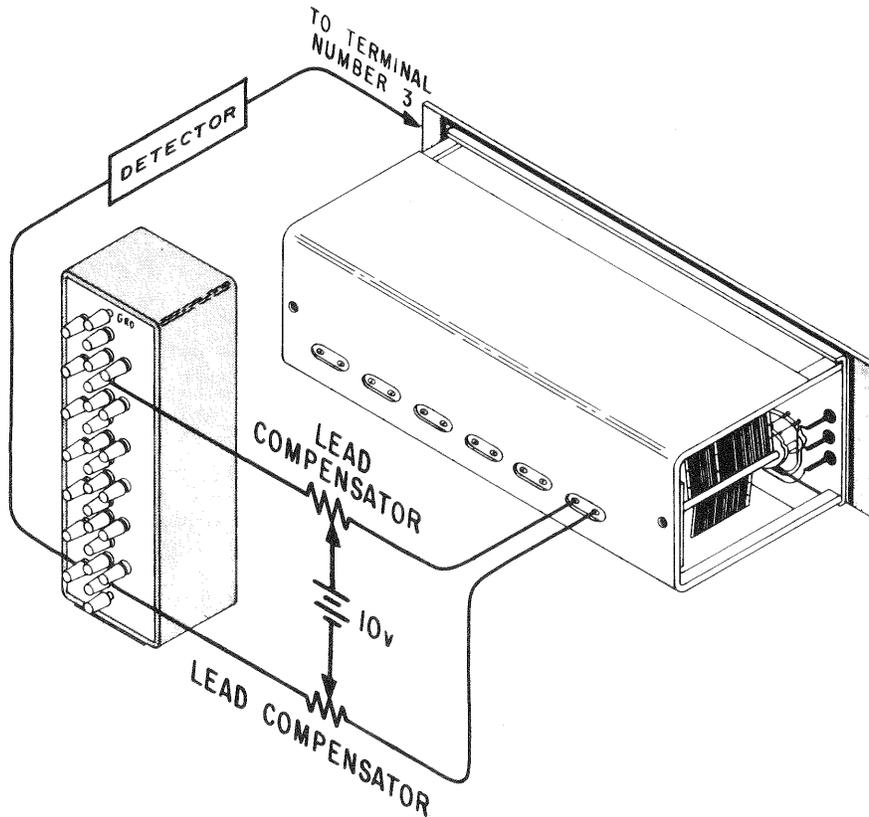

Figure 3.3B
- 8) Connect the equipment as shown in Figure 3.3B.